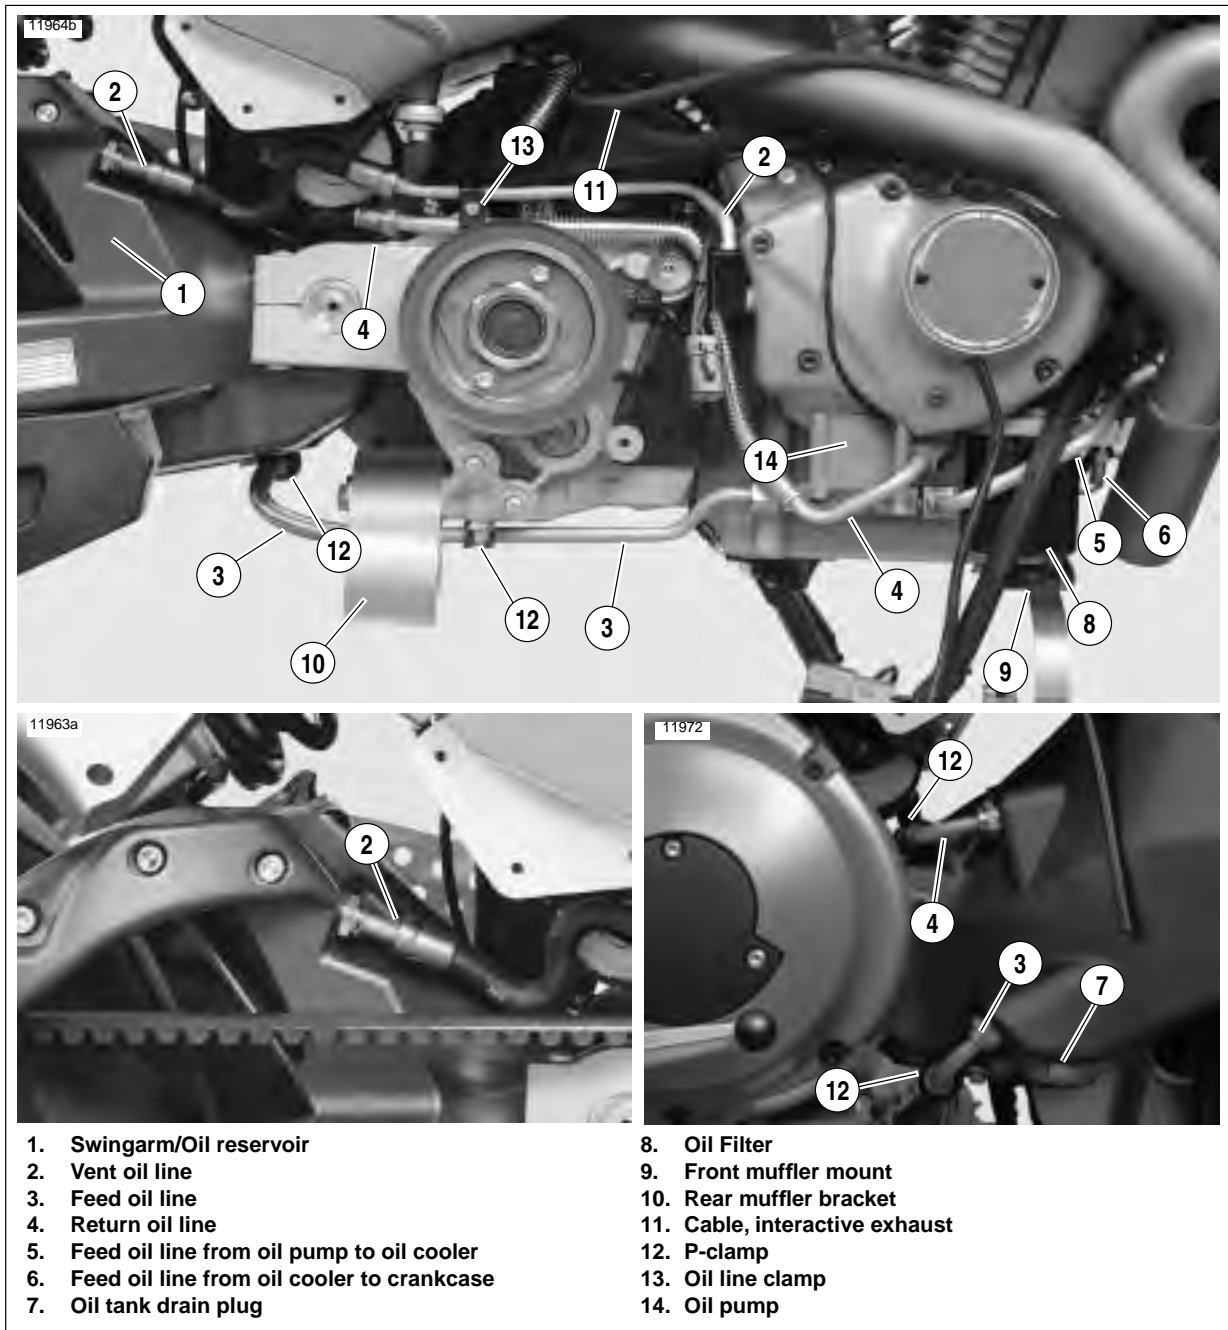
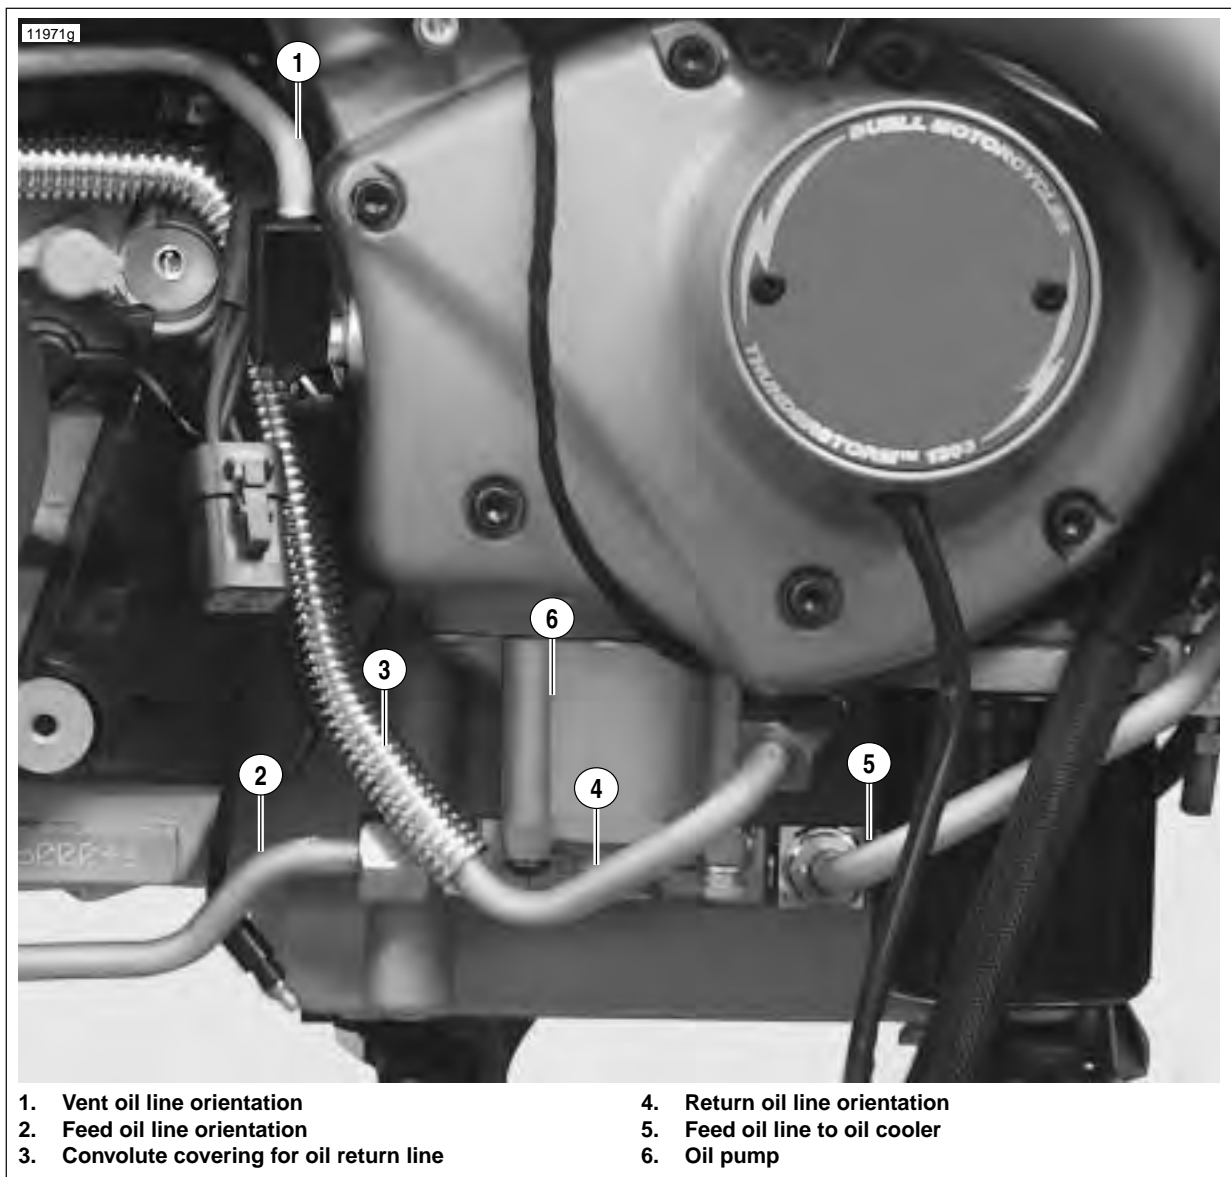

Figure 3-45. Oil Lines and Connections
Figure 3-46. Orientation of Feed Oil Line, Vent Oil Line and Return Oil Line at the Oil Pump
21. See Figure 3-45. Install the feed, return and vent oil lines starting at the engine and working towards the rear of the vehicle. Leave all oil line fittings loose at the engine at this time. See 3.10 OIL LINE FITTINGS.
*The feed oil line (3) is routed through the right side of the rear muffler bracket (10).*
22. See Figure 3-45. Install p-clamps (12) on feed oil line (3) at crankcase and swingarm/oil reservoir and tighten fastener to 48-72 **in-lbs** (5.4-8 Nm).
24. Install oil line clamp (13) attaching vent oil line (2) to return oil line (4) in front of starter motor and tighten to 40-50 **in-lbs** (5-5.5 Nm).
25. See Figure 3-46. The feed oil line (2) at the rear of the of the oil pump should be tightened to 27-29 ft-lbs (36.6-39.3 Nm).
26. Tighten the return oil line (4) at the top front oil pump fitting to 22-24 ft-lbs (29.8-32.5 Nm).
See Figure 3-46. Once the return oil line (4) has been installed it will be necessary to install the convolute covering (3) over the return oil line.
27. Tighten the vent oil line (1) at the gearcase cover to 12-13 ft-lbs (16.3-17.6 Nm).